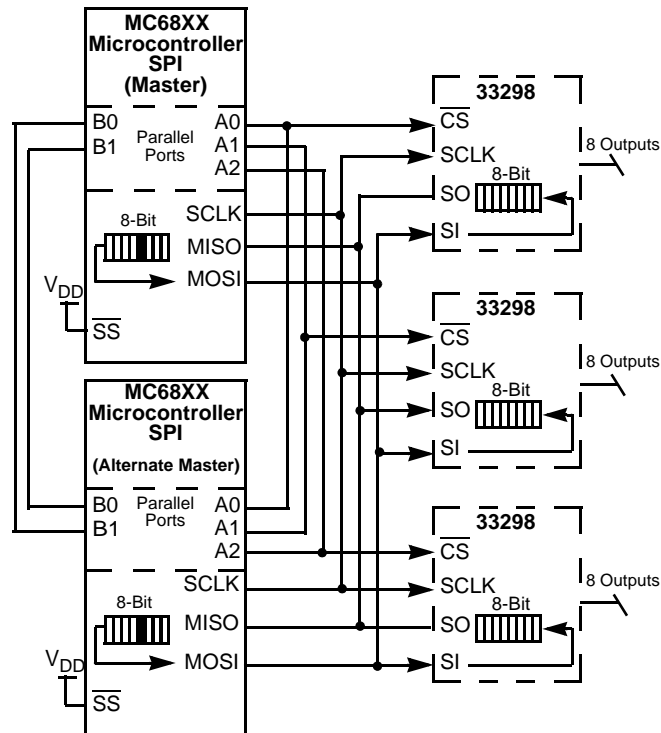

Figure 16. Multiple MCU SPI Control
any transition. For this reason, it is recommended, though not absolutely necessary, the SCLK pin be kept in a low logic state as long as the device is not accessed (\overline{CS} in logic high state). When \overline{CS} is in a logic high state, signals at the SCLK and SI pins are ignored and SO is tri-stated (high impedance). See the Data Transfer Timing diagram in Figure 16.
The serial output (SO) pin is the *tri-stateable* output from the Shift register. The SO pin remains in a high impedance state until the \overline{CS} pin goes to a logic low state. The SO data reports the drain status, either high or low relative to the previous command word. The SO pin changes state on the rising edge of SCLK and reads out on the falling edge of SCLK. When an output is OFF and not faulted, the corresponding SO data-bit is a high state. When an output is ON, and there is no fault, the corresponding data-bit on the SO pin will be a low logic state. The SI/SO shifting of data follows a first-in-first-out (FIFO) protocol with both input and output words transferring the MSB first. Referring to Figure 16, the DO bit is the MSB corresponding to Output 7 relative to the previous command word. The SO pin is not affected by the status of the Reset pin.
The MCU can perform a parity check of the fault logic operation by comparing the command 8-bit word to the status 8-bit word. Assume after system reset, the MCU first sends an 8-bit command word to the 33298. This word is called Command Word 1. Each output to be turned ON will have its corresponding data bit low. Refer to the data transfer timing illustration in Figure 16.
As Command Word 1 is being written into the Shift register of the 33298, a status word is being simultaneously written and received by the MCU. However, the word being received by the MCU is the status of the previous write word to the 33298, Status Word 0. If the command word of the MCU is written a second time (Command Word 2 = Command Word 1), the word received by the MCU, Status Word 2, is the status of Command Word 1. The timing diagram illustrated in Figure 16 depicts this operation. Status Word 2 is then compared with Command Word 1. The MCU will Exclusive OR Status Word 2 with Command Word 1 to determine if the two words are identical. If the two words are identical, faults do not exist. The timing between the two write words must be greater than 100 μ s to receive proper drain status. The system data bus integrity may be tested by writing two like words to the 33298 within a few microseconds of each other.